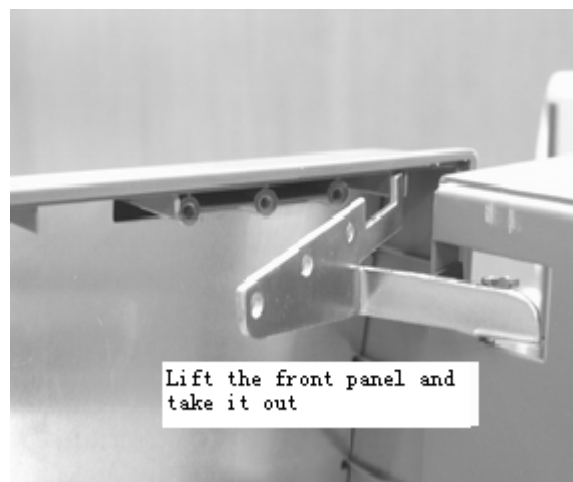

Figure 5-73
4. Disconnect the cable to keyboard, then lift the front panel and take it out (Figure 5-73)